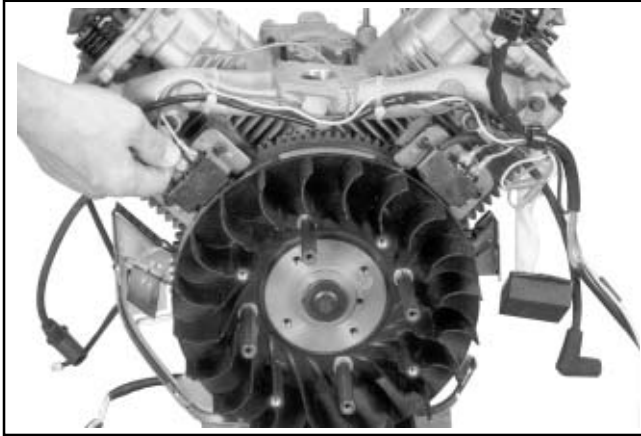

Figure 9-41. Disconnecting Leads from Ignition Modules.
1. Disconnect the lead(s)* from each ignition module. See Figure 9-41. *Modules for non-SMART-SPARK™ ignition systems have only one kill lead.